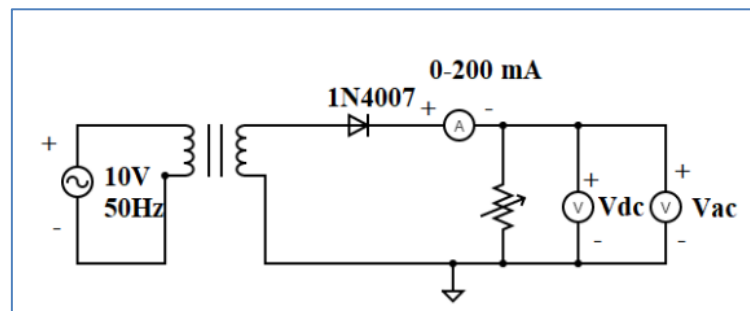

Fig 8. Half wave rectifier without filter
3.1 Verification of Half wave rectifier without filters using hardware shown in fig 8 and draw the waveforms.